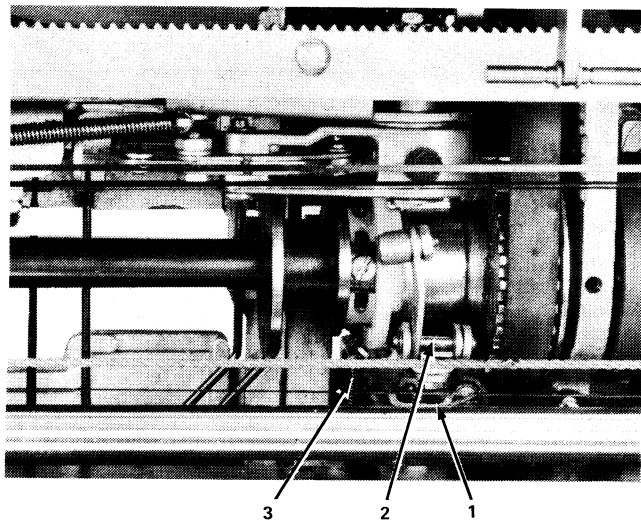

Figure 4-6. Cycle Clutch Latch Removal
1. Remove the bottom hexhead cycle clutch bracket mounting screw (No. 1, Figure 4-6).
2. Loosen the top mounting screw (No. 1, Figure 4-6).
3. Unlock the spring from the latch (No. 3, Figure 4-6).
4. Lift the cycle clutch latch and mounting bracket out (No. 2, Figure 4-6).